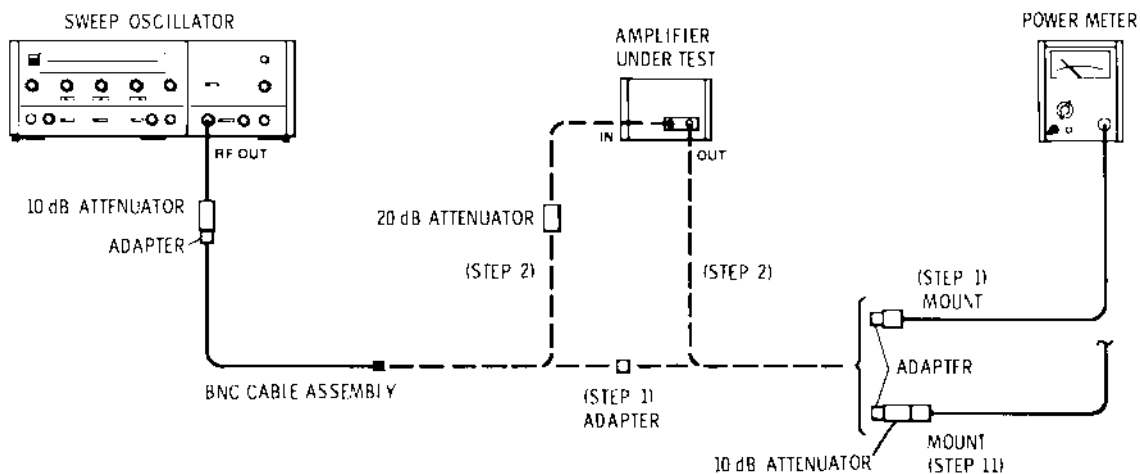

Figure 3 Gain Test Setup: 10 MHz to 1.3 GHz
- 1 To measure gain flatness and mean gain, connect the equipment as shown in Figure 3. Set the sweep oscillator for a 1.3 GHz, leveled, CW signal. Set the signal level for -10 dBm out of the 10 dB attenuator (read on the power meter).
- 11** To check compression, connect the power meter mount, through the 10 dB attenuator, to the amplifier OUTPUT as shown in Figure 3. Connect the sweep oscillator, through the 20 dB attenuator, to the amplifier INPUT. Set the sweep oscillator for a leveled, 650 MHz, CW signal and set the signal level (read on the power meter) as follows: